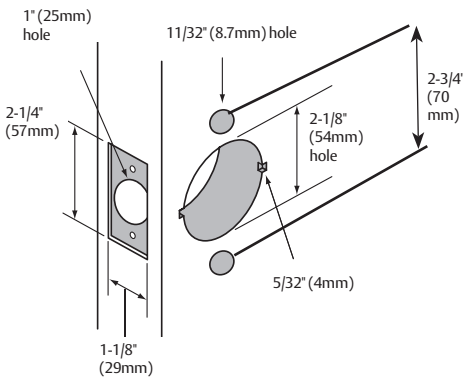

Figure 2
- 3. Verify the dimensions. See Figure 2.